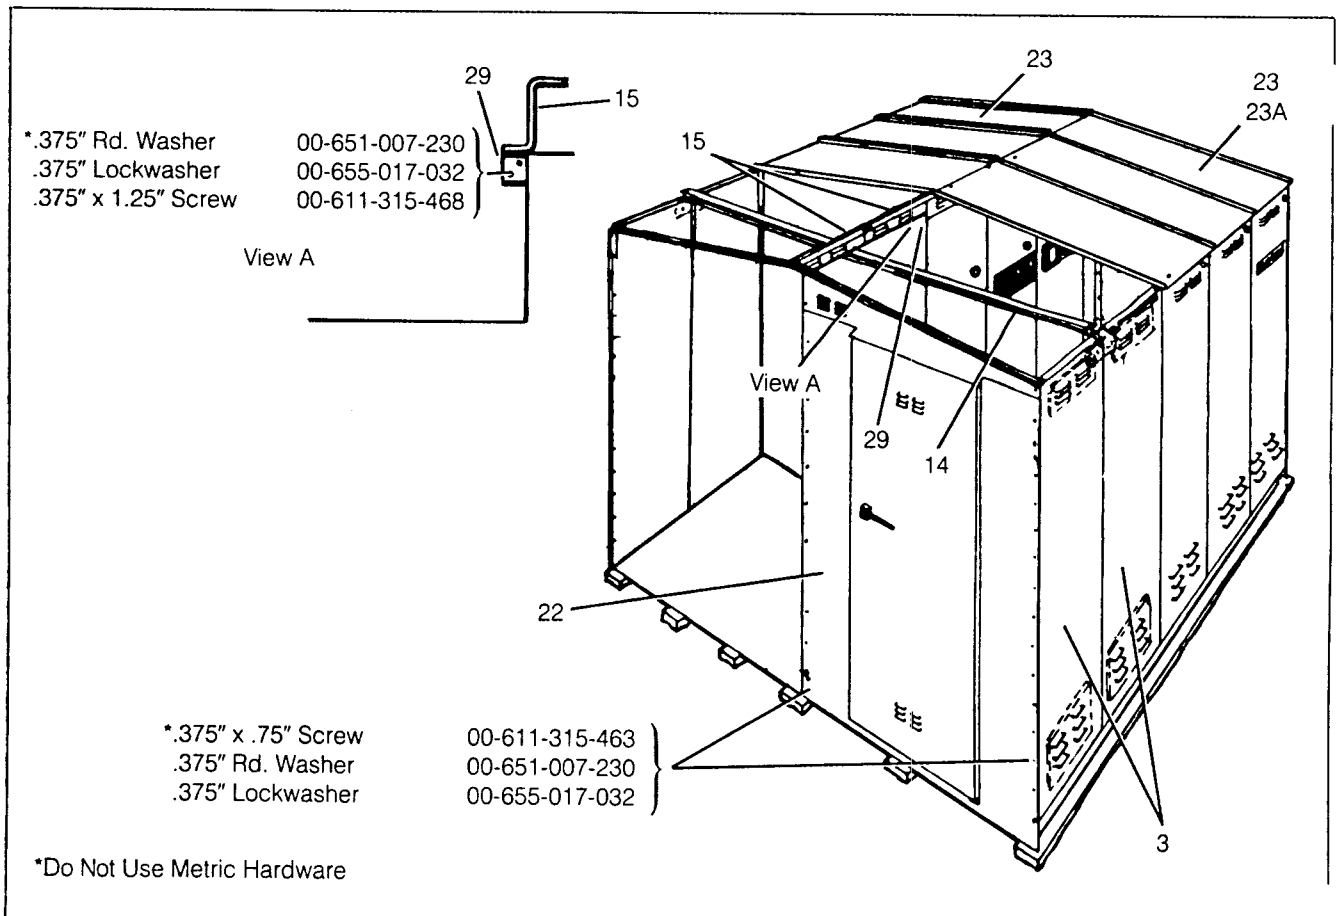

Figure 42. Door and Roof Support Installation (15 kV) — Single Aisle With Work Space
13. See Figure 42. Position and bolt the door frame assembly (22) into place. Apply .50" (12.7 mm) sealant tape so that one edge is on vertical centerline of mounting holes and other edge is toward point of weather exposure.